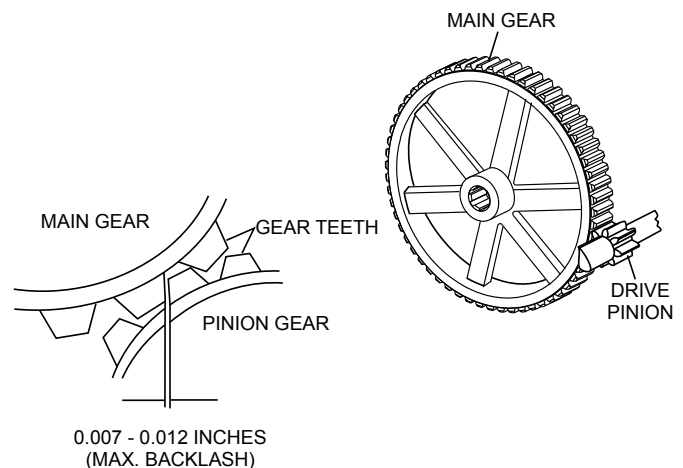

Figure 33. Drive Pinion and Main Gear (Backlash)
3. Using your hand, slightly move (rock) the drive pulley back and forth to determine the amount of backlash. Insert feeler gauge between gears to determine backlash distance. Backlash should range between 0.007- 0.012 inches (Figure 33).
1. There are two grease (Figure 33) fittings at each end of the electric motor that will require lubrication. Lubricate these fittings about every 16 months.